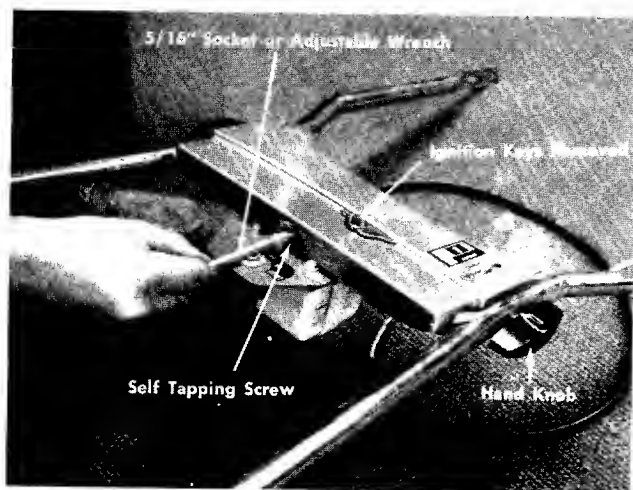

FIGURE 7. HANDLE PANEL ASSEMBLY
13. Remove the ignition keys from the ignition switch. See figure 7.
14. Secure top center of handle panel with hex head screw. See figure 7.